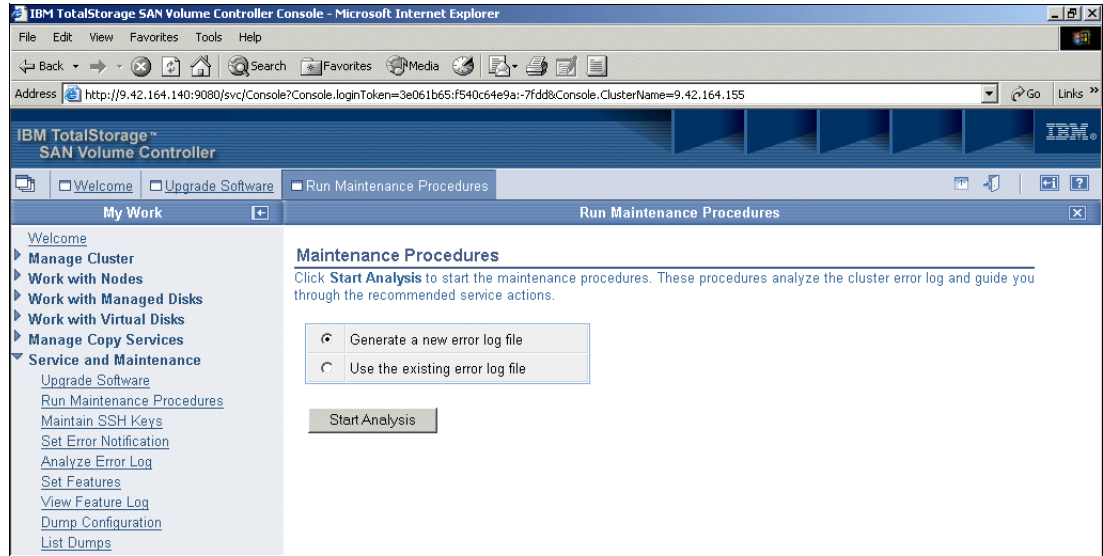

Figure 9-83 Maintenance Procedures
2. As shown in Figure 9-83, you can select whether you want to use the existing cluster error log or generate a fresh one using the radio buttons. Using the existing log file displays the unfixed errors that exist in the log file that was last generated. If this is your first time using this option, no error log exists.